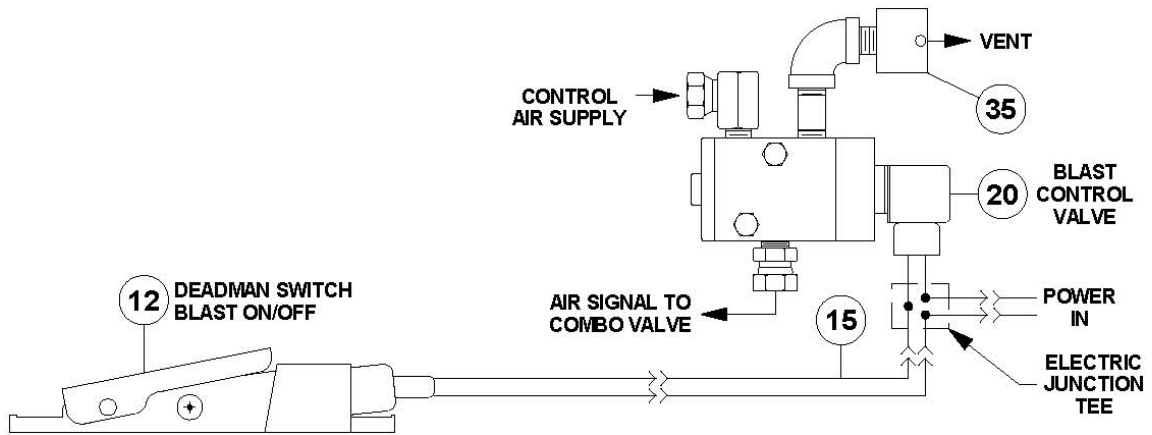
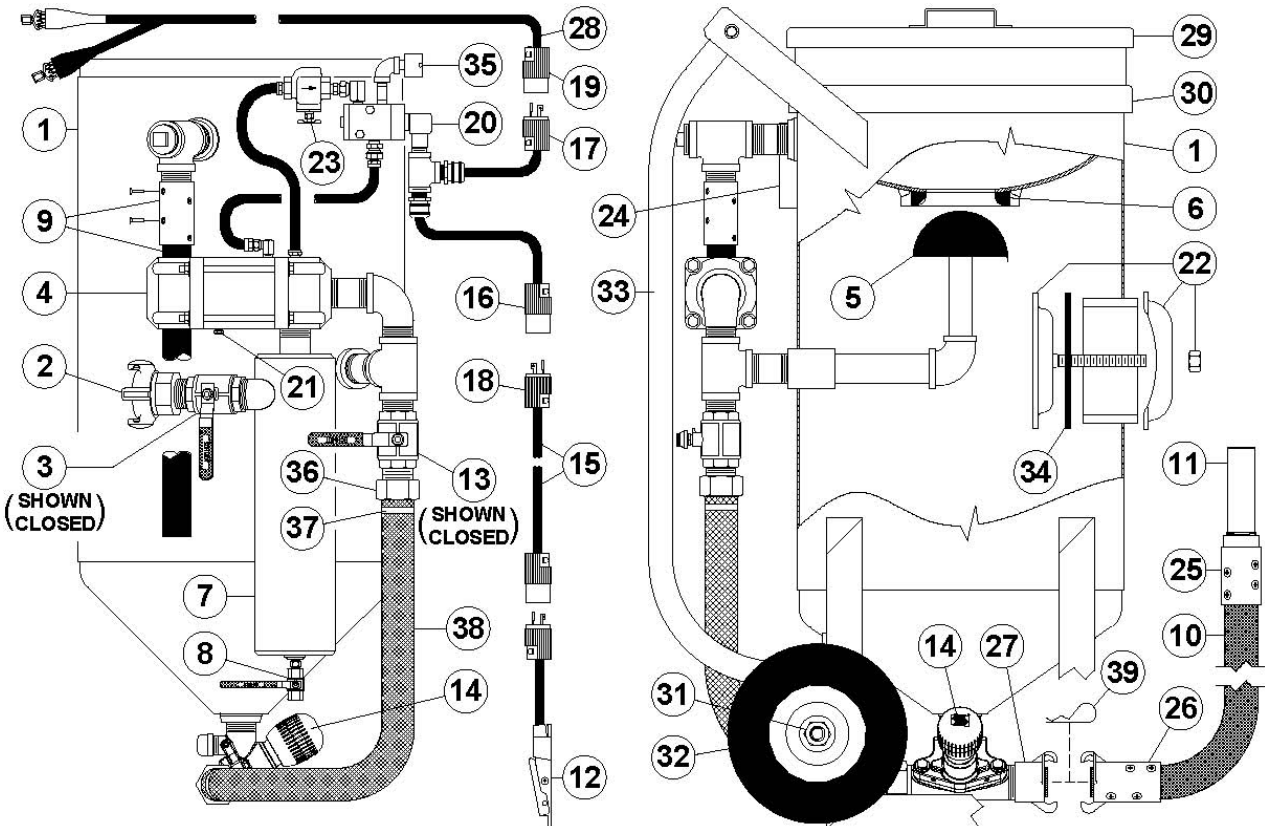

Figure 5.4 – Micro Valve Electric Deadman Blast Control System
Figure 5.5 – Micro Valve Abrasive Blaster with electric blast controls
5.8.2. Electric Deadman System: When the electric deadman lever (#12) is pressed down it closes the electric circuit and supplies electric current to the control valve (#20). The control valve opens and sends air signals to the Combo Valve (#4) to begin blasting. When the deadman lever is released the electric circuit is turned off closing the control valve. The signal air vents from the breather (#35) and the Combo Valve closes to stop blasting. See Figure 5.4, Figure 5.5 and the drawing in Section 9.3.
Figure 5.5 shows a Micro Valve abrasive blaster with the electric deadman system. The Popup Valve, Micro Valve, and Combo Valve operate the same as a blaster with a pneumatic blast control system. The difference is that the electric control system requires the addition of the electric control valve (#20) operated by the electric deadman as detailed in Section 5.8.2.